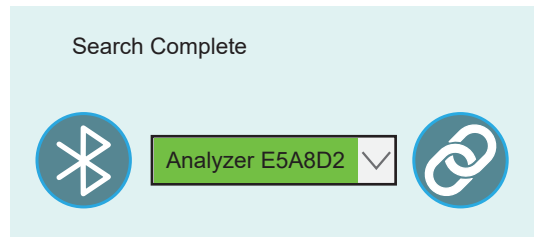

Figure 29. Successful Connection
- The drop-down menu will turn green when connected. See Figure 29.